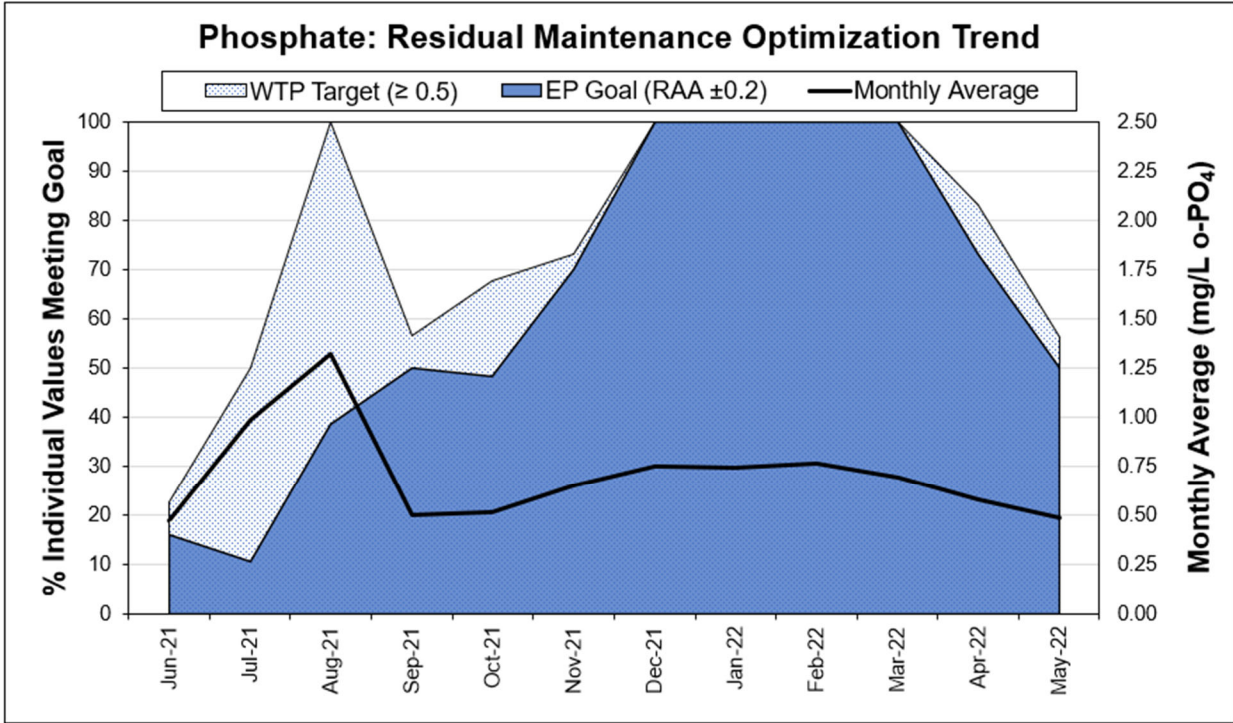
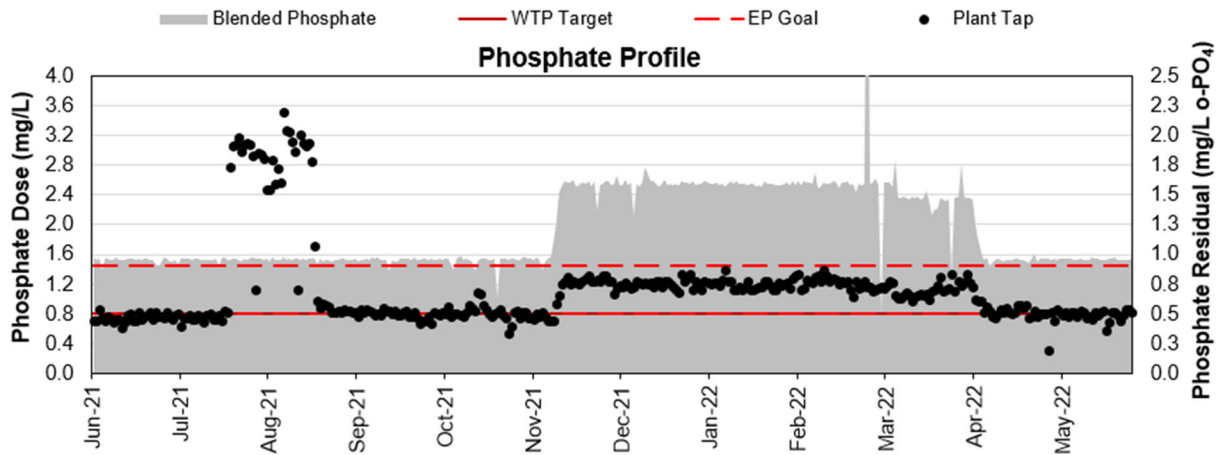

Figure 2: Example Residual Maintenance Optimization Trend in OAS
Figure 3: Example Residual Maintenance Performance Summary in OAS
5. The example residual maintenance optimization trend in Figure 2 shows that the monthly values met the proposed EP goal ($\text{RAA} \pm 0.20 \text{ mg/L o-PO}_4$) and the system-defined target ($\geq 0.50 \text{ mg/L o-PO}_4$) from January through March but was challenged other times of the year. Figure 3 shows that phosphate residual was up to three times greater than the RAA during an extended period in August despite consistent phosphate dosing. This could indicate that there was a deviation in performance (i.e., originating from source or treatment) or that there was a data integrity issue.